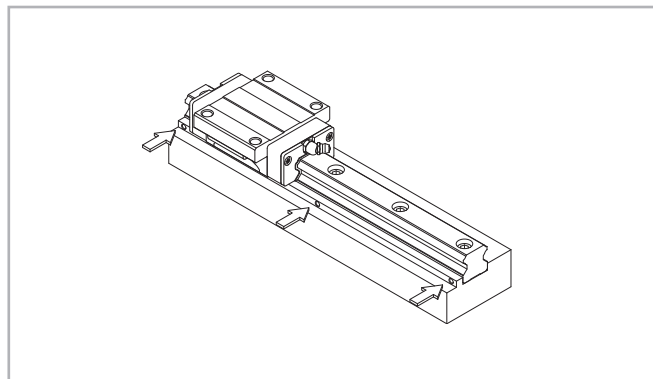

Fig. 60
(3) Tighten the thrust bolts on the guide rail until there is close contact on the side stop surface (see fig. 60).